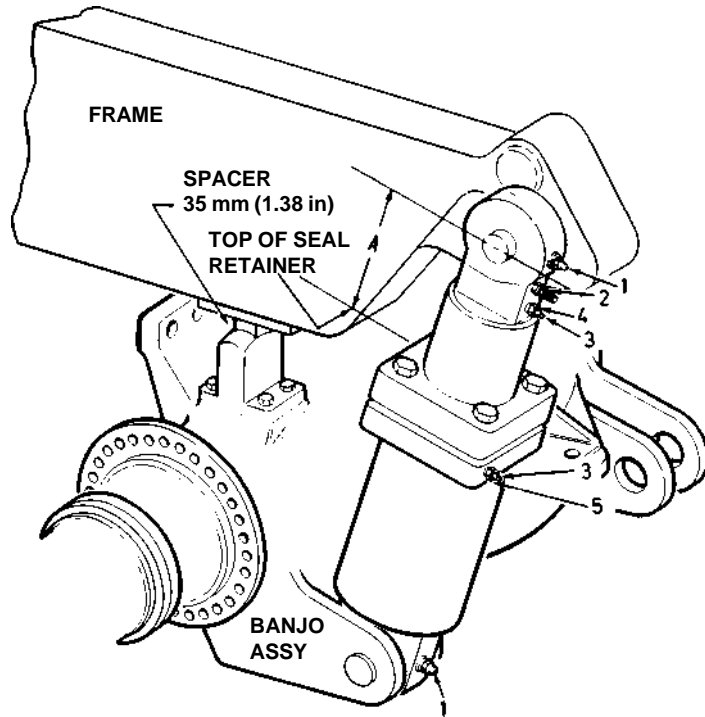

Fig. 5 - Typical Ride Cylinder Installation
2. Place a 35 mm (1.38 in) spacer on each oscillation stop to facilitate charging procedure, as shown in Fig. 5.
3. Remove cap from nitrogen charging valve (2) at top of ride cylinder. Turn hex nut on charging valve 1/4 to 1/2 turn anticlockwise and depress the valve core. If no gas escapes, continue to turn hex nut in 1/4 turn increments until nitrogen releases as the charging valve core is depressed.
2. With cylinder rod in its retracted position (except for the spacers on oscillation stops as shown in Fig. 5), fill the cylinder until oil flows free of air bubbles from check valve (4) port. It may be necessary to wait 30 or more minutes after nitrogen pressure has been released to clear the foam which has formed inside the cylinder. Screw in check valve (4) and close bleed valve with pipe plug (3). Remove nitrogen charging valve (2) from cylinder rod. Continue filling the cylinder with oil through check valve (5) port until it flows free of air bubbles, from nitrogen charging valve (2) port.
3. Remove oil fill equipment, reinstall plug (3) in check valve (5) and reinstall nitrogen charging valve (2) in its port.
7. Close tank valve (6, Fig. 7) and open cylinder valve (4, Fig. 7). Charge both cylinders to height 'A', shown in Fig. 5, by opening tank valve (6, Fig. 7) slowly and closing it occasionally. To check pressures in the cylinders, close tank valve (6, Fig. 7) and note the reading on pressure gauge (9).
**Note:** The cylinders should be charged to the height shown in Fig. 5 and MUST NOT be overcharged above the recommended height. Overcharging can cause the cylinders to over extend, thus damaging the piston retaining bolts.
**Note:** Cylinder charging pressures shown in the chart below are intended to be for REFERENCE only. Cylinders should be charged according to the height specified in Fig. 5 and NOT solely on the basis of monitoring cylinder pressure.
8. When height 'A' (Fig. 5) has been reached, close the valve on nitrogen bottle (11) and tank valve (6, Fig. 7) securely. Turn small hex on nitrogen charging valves (2)
**Note:** On new or rebuilt cylinders, the seals and wipers may grip the piston rods tighter and make it difficult to obtain the correct height shown in Fig. 5. If this happens, the cylinders should be charged as accurately as possible, the vehicle operated for several days, and then the cylinder re-checked.
10. Check nitrogen charging valves (2) for leakage with soapy water. If either core is leaking, depress it quickly once or twice to reseal the core. If leakage persists, replace core. Tighten charging valve lock nut and replace valve cap. Tighten valve cap so that it cannot be removed by hand.